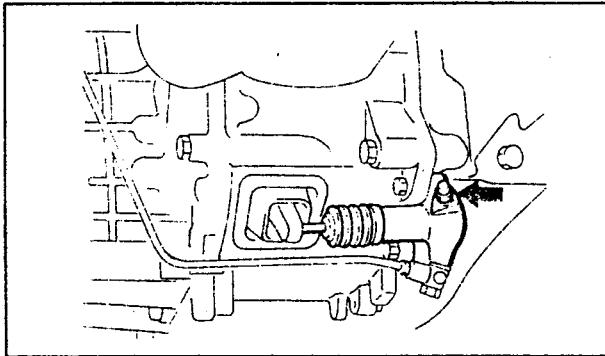

Fig. 6.6. — The location of the bleeder screw on the clutch slave cylinder.
- Ask a helper to operate the clutch pedal with slow and even strokes and open the bleeder screw (Fig. 6.6) a little, when the pedal is being held on the floor. Close the bleeder screw.